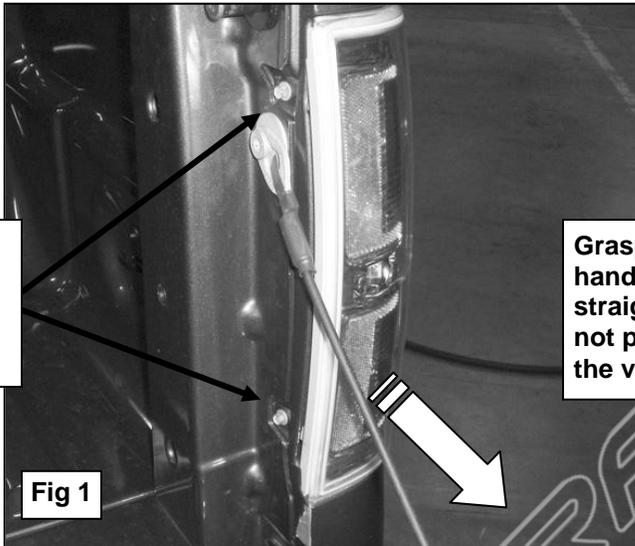

Fig 1
- 3.** Select the Passenger Side Taillight Guard and (1) Support Bracket to start the installation on the passenger side of the vehicle. Open the tail gate and remove the hex bolts holding the taillight assembly in place, **(Figure 1)**.